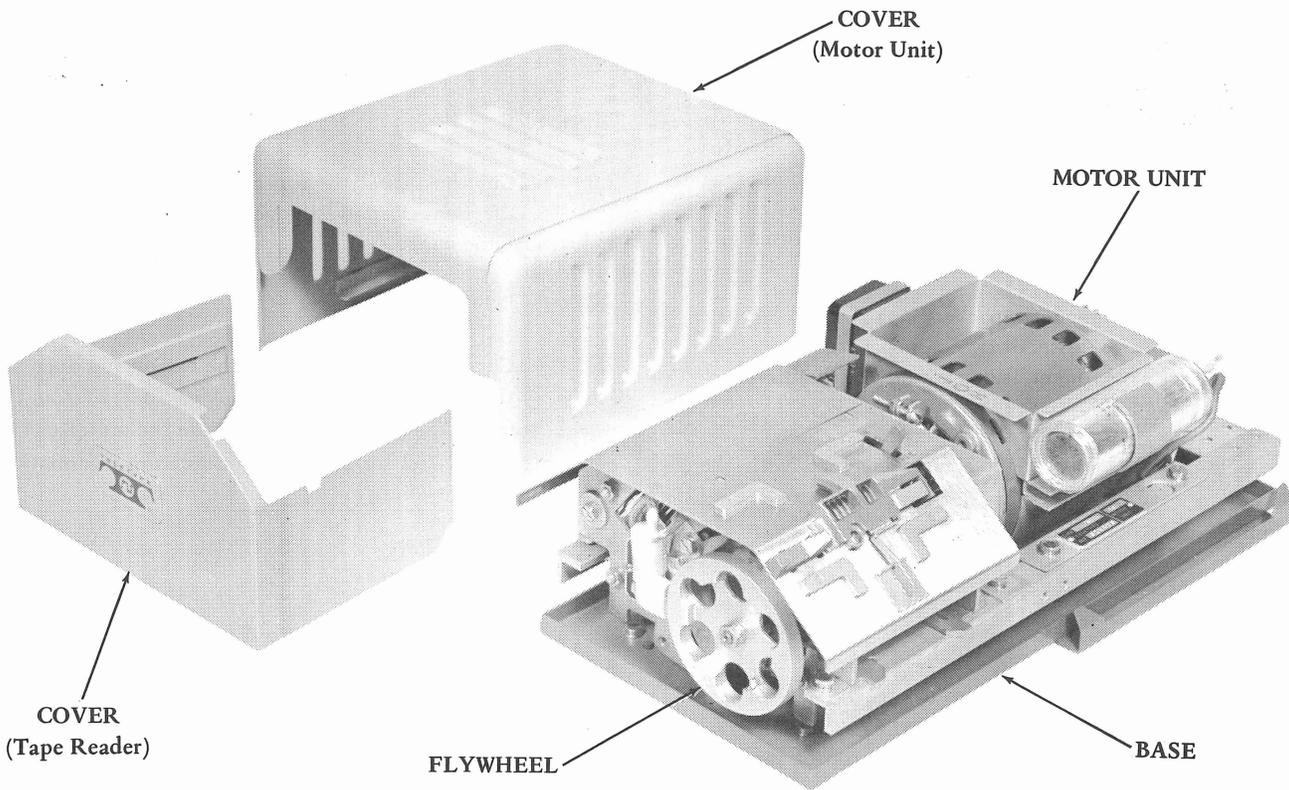

Figure 2 - High Speed Tape Reader (Covers Removed)
3.01 Remove the muslin bag tied to the base containing the mounting hardware. Mount the motor unit to the base (Figure 2) with the mounting hardware provided. Attach the gear set to the motor shaft.
3.03 Place the reader (Figure 2) on the base so that the plug mates properly with the receptacle on the base. Secure the reader to the base with the three mounting screws and lockwashers provided. The screws should be finger tight. Check for barely perceptible backlash between reader
3.04 The cover (Figures 2 and 3) consists of two parts which enclose the motor and reader. Place the larger part over the motor unit so that it rests on the base. Slide the other part into place from the right side of the reader. This part is held in place by the spring action of its sides.